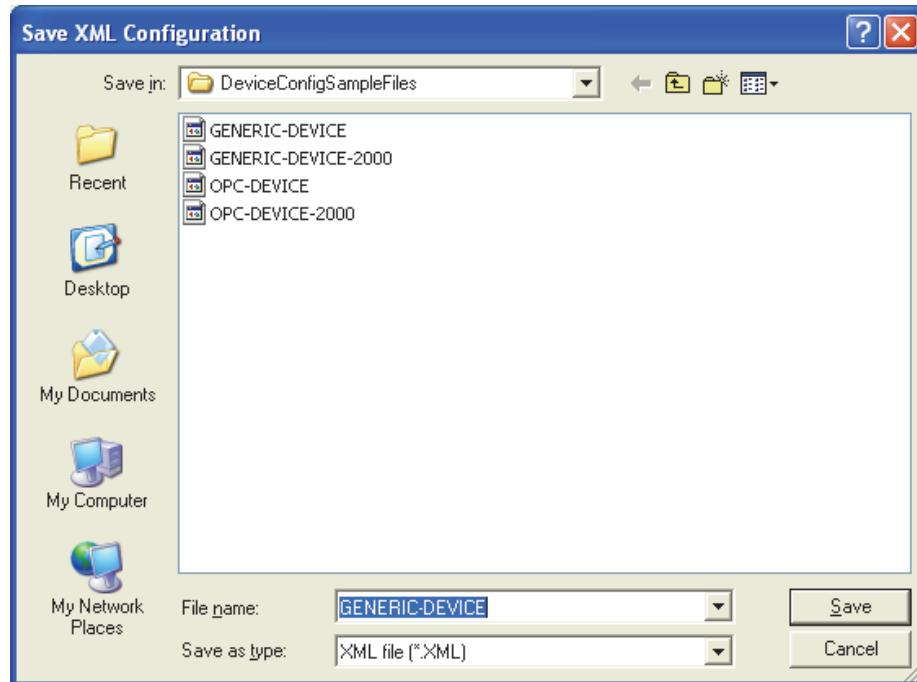

Figure 7-30. Save XML Configuration Dialog Box
This invokes a Save XML Configuration dialog box (Figure 7-30). The dialog box allows you to enter or change the filename or directory. You can use any name for any port or device configuration file with the .XML extension.
2. The Save XML Configuration dialog box (Figure 7-30) shows all configurations that are saved on the system including the standard Foxboro supplied configurations. If an you are replacing an existing file, select it and click **Save**.